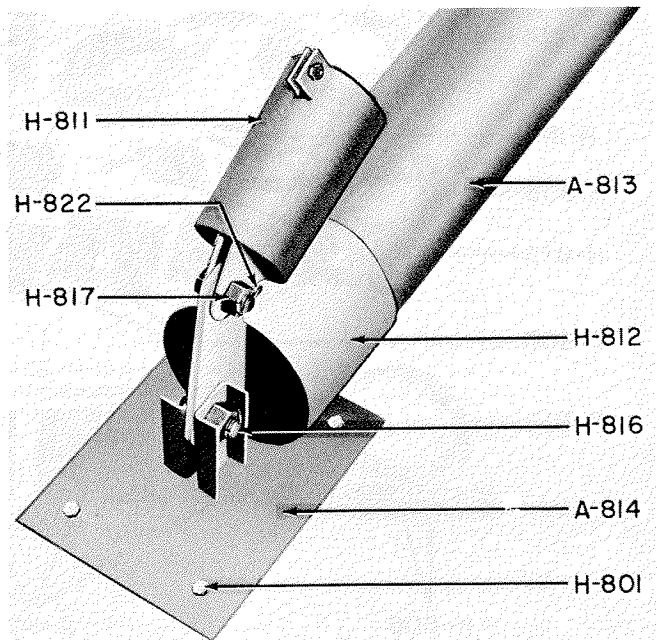

Figure 3-5. Mast Base Assembly
assembly H-818 (figure 3-5). Tip the socket toward point B so that the mast section lies along the ground after being seated.
g. Seat the larger boom section, A-807, into boom-clamp assembly H-811 (small socket) on mast-base assembly H-818; see figure 3-5. Tighten the socket clamp around the seated boom section using the wrenches supplied.